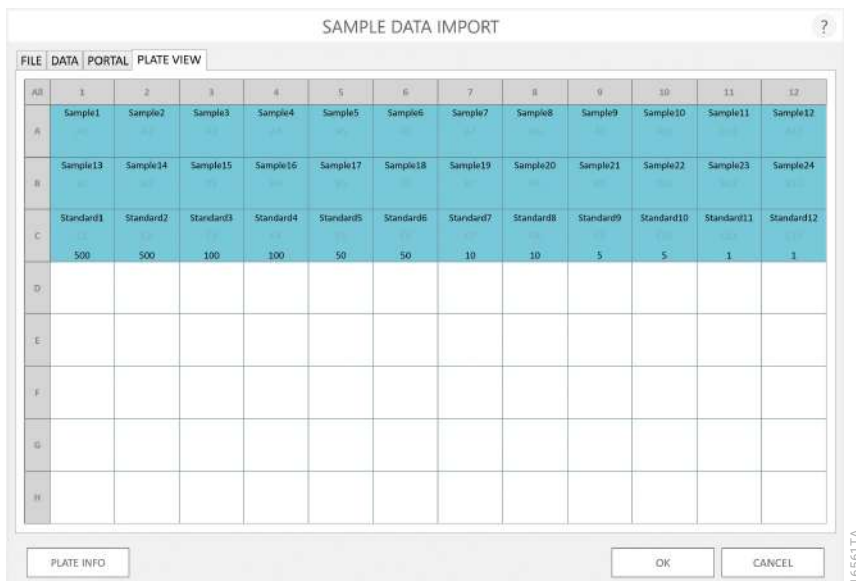

Figure 45. Plate View tab. A graphical representation of the plate map file that was imported. Sample ID and Concentration information are displayed.
8. The Plate View tab is displayed showing a representation of the sample ID and concentration data imported from the file (Figure 45). Sample IDs are shown at the top of the well and any concentration data is shown at the bottom of the well. Three buttons are located at the bottom of the screen: